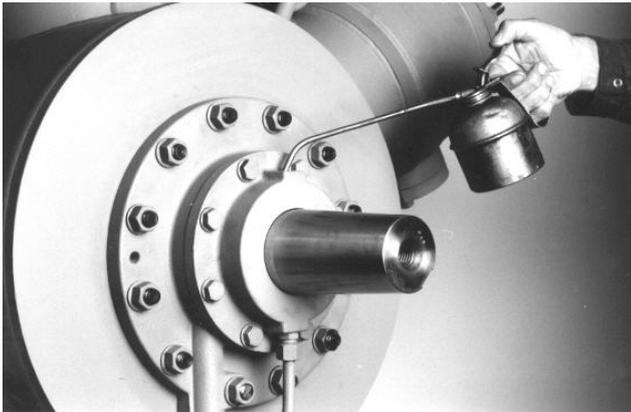

Fig.165: Shaft seal housing
- 1.b. Shaft seal housing(Figure 165, Page 66)